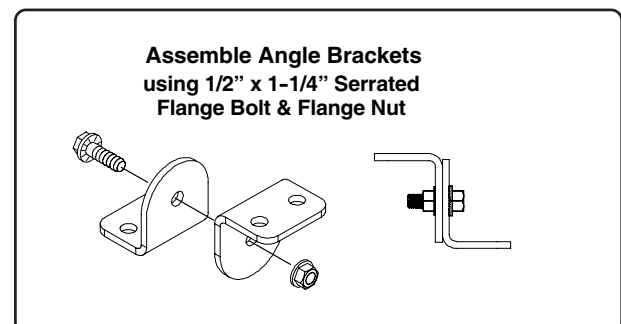

Figure 1
1. Assemble two of the four Angle Brackets together using 1/2" x 1-1/4" flange bolts and flange nuts (See Figure 1).